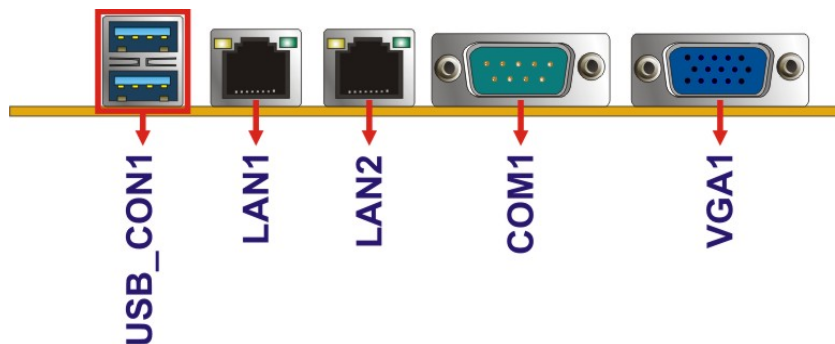

Figure 3-29: External Interface Connectors
- CN Location:See Figure 3-29
CN Location: See **Figure 3-29**
CN Location:	See Figure 3-29